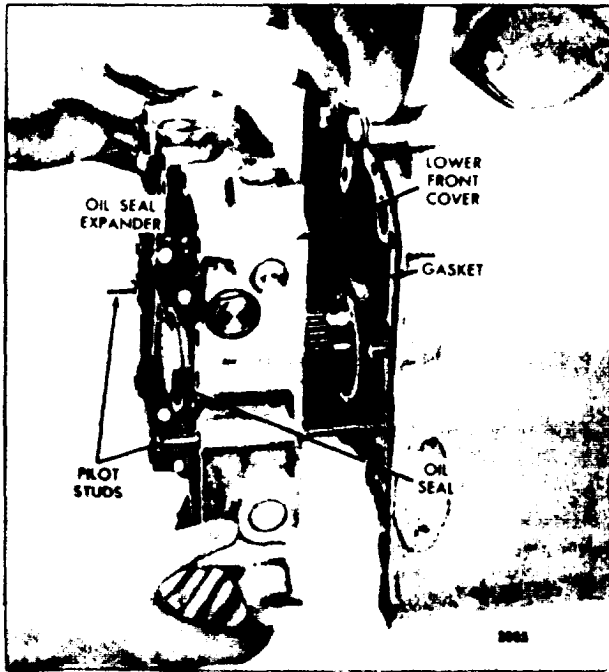

Fig. 3 -Installing Lower Engine Front Cover
3. Thread two 3/8"-16 pilot studs approximately 8" long into two diametrically opposite bolt holes in the cylinder block to guide the cover in place (Fig. 3).
4. Apply a light coat of cup grease to the lip of the oil seal. Slide the engine front cover over the oil seal expander and pilot studs as shown in Fig. 3. Push the cover forward until the inner rotor of the oil pump contacts the pump drive gear on the crankshaft. Rotate the crankshaft slightly to align the teeth, then push the cover up against the gasket and block. Do not force the cover.